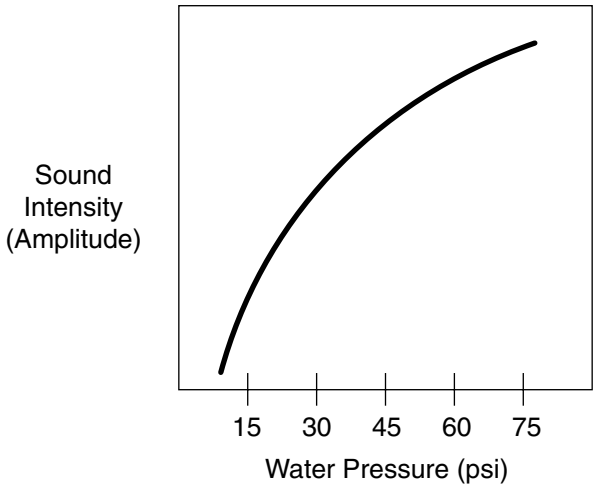

Figure 4-1 Sound Intensity vs. Water Pressure Graph
* Pressuring to 50-60 psi or more will greatly aide detection. The intensity or loudness of water leak sounds increases greatly with increasing water pressure (see Figure 4-1).